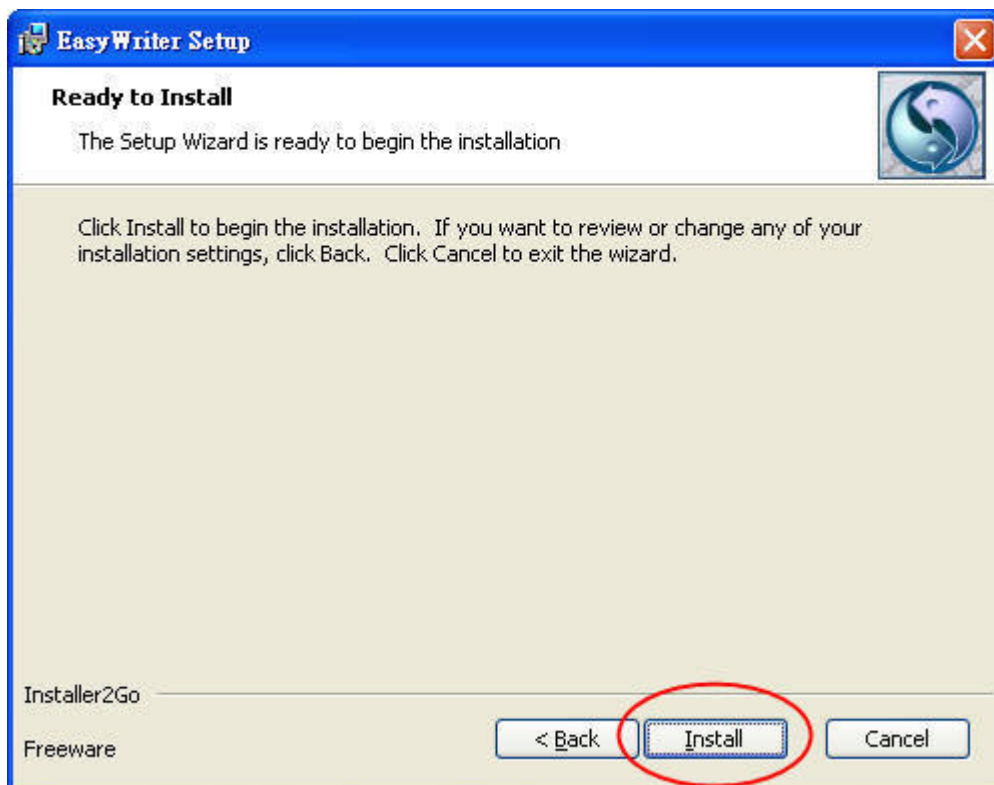

Fig 1.3
1.5 Press “ Install “ button to continue , see Fig 1.3